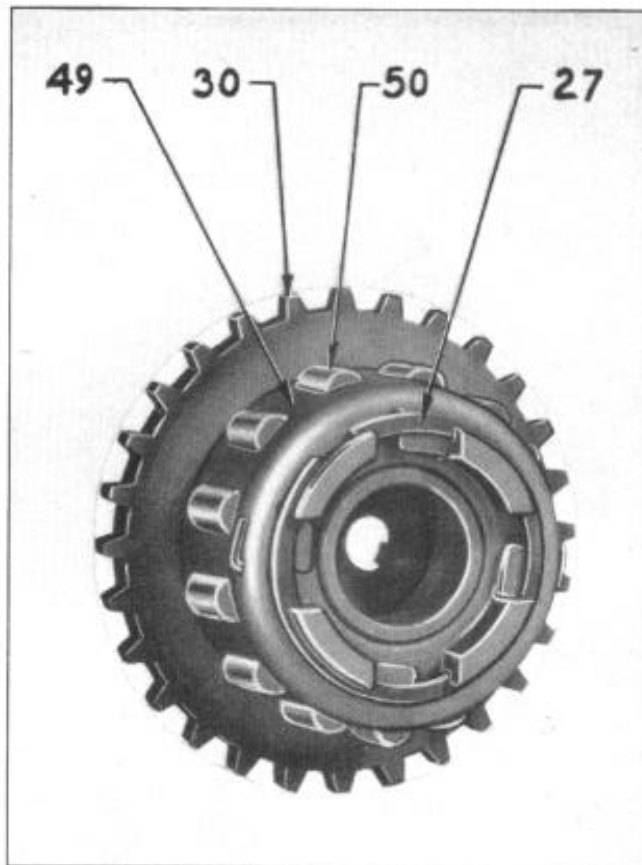

Figure 6
2. Remove two (2) screws holding case to adapter.
3. Move shifter lever to forward position and remove case by pulling off toward rear. Free-wheel cam rollers (50), Figure 6, will fall out into case (12 rollers).
1. Remove the free-wheeling snap ring (27), Figure 6, from the free-wheel cam (30).
2. Pull roller retainer (49) partly off the cam and, with pliers, pull the end of one spring out of the hub of the cam, then pull the retainer further off